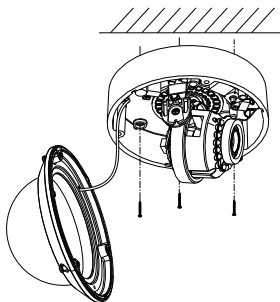

Figure 2-3 Secure the Camera to the Ceiling
6. Secure the dome camera to the ceiling with 3 self-tapping screws. Refer to Figure 2-3.